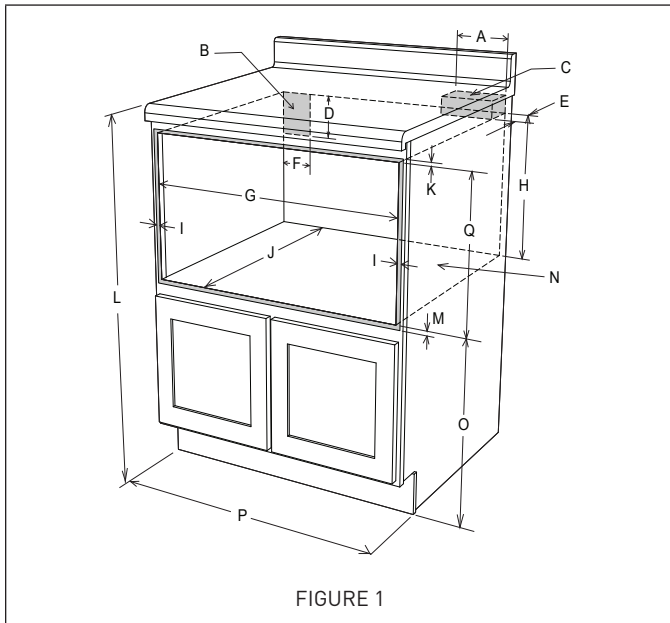

FIGURE 1
- For SAFETY CONSIDERATIONS do not install drawer in any combustible cabinetry, which is not in accord with the stated clearances and dimensions on page 4, See figure 1.
- Dimensions that are shown in figure 1 must be used. Given dimensions provide minimum clearance. Locate electrical outlet in the shaded area in the upper left-hand corner of the cutout. See figure 4.
Figures 1 and 2 contain many Drawer Microwave measurements for reference when planning the drawer's location.
- To reduce the risk of tipping of the drawer, the Anti-Tip block must be properly installed located 14-13/16" above the floor on which the appliance will sit. The 6" Anti-Tip block must be provided by the installer. See figure 1 and 3. The Anti-Tip block prevents serious injury that might result from spilled hot liquids.